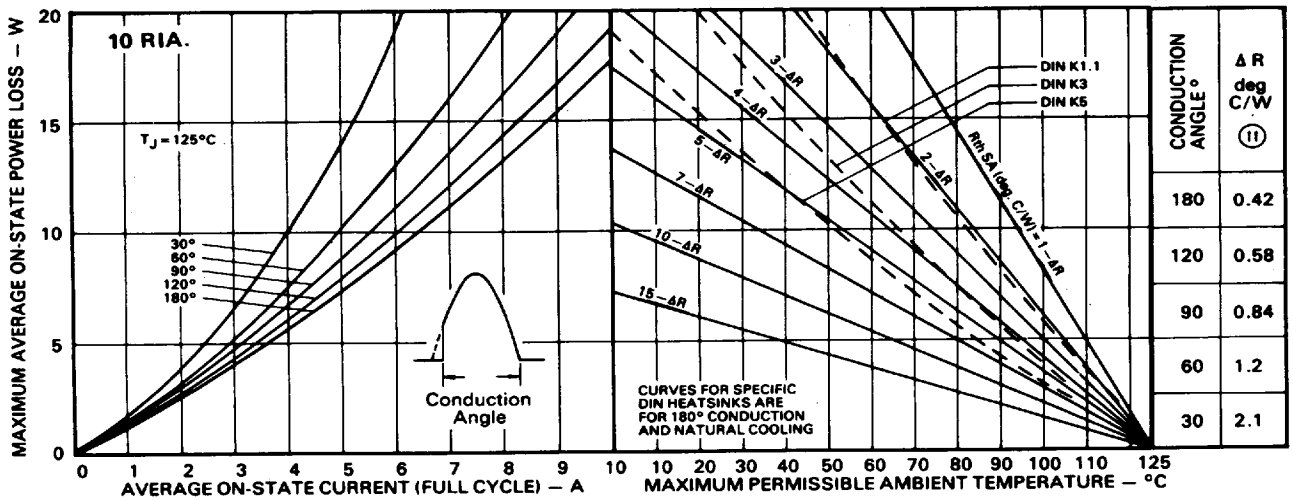

Fig. 1 - Continuous Current Rating Nomogram (Phase Angle Controlled Half-Sinusoidal Waveforms, 50-400 Hz), 10RIA Series.
① To determine required heatsink thermal resistance ( $R_{thSA}$ ) in deg C/W use value of  $\Delta R$  appropriate to conduction angle stated in table and substitute in formula  $R_{thSA} = X - \Delta R$ , e.g. for 10RIA at 180° conduction angle, 7.6A, and 60°C ambient temperature  $R_{thSA} = 3 - 0.42 = 2.58$  deg. C/W (figs. 1 & 2)